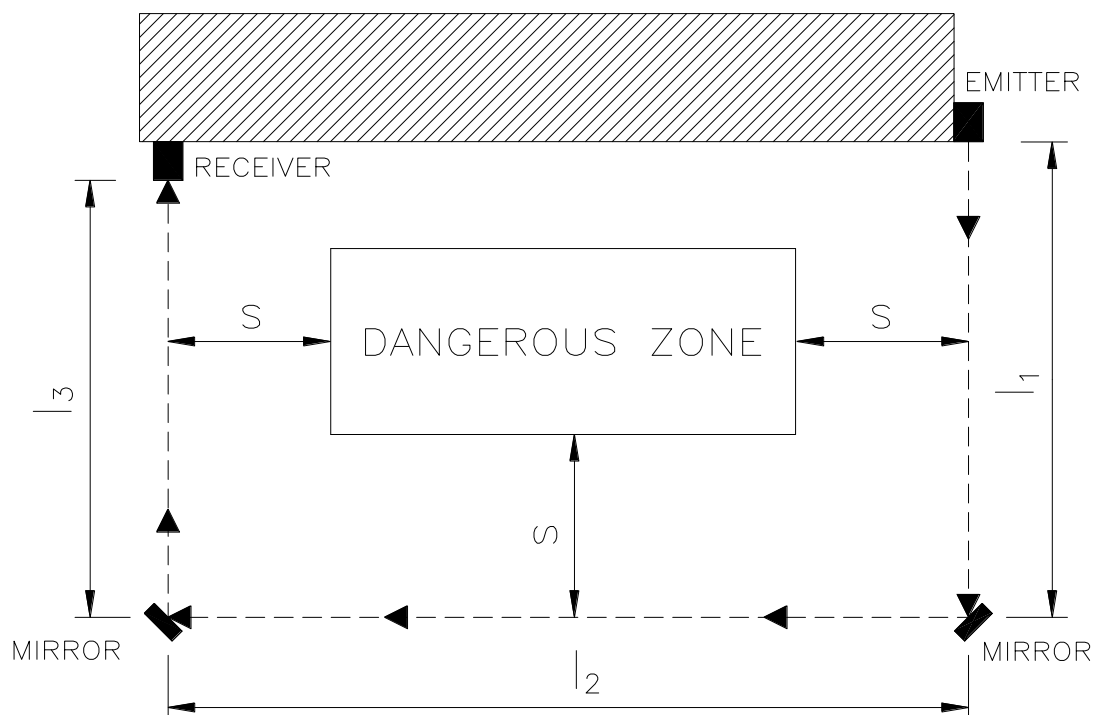

Figure 7 – Deflecting mirrors
- Position the mirrors so as to comply with the minimum safety distance  $S$  (Figure 7) on each side of access to the dangerous area.